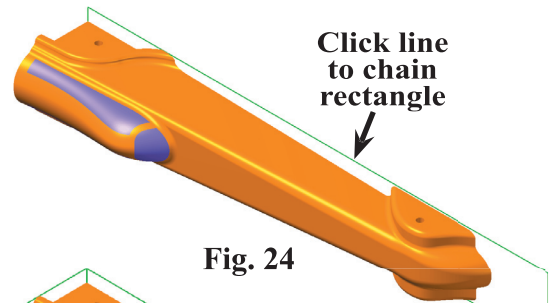

Fig. 24
Step 4. Click a **line** of the rectangle, Fig. 24 and press **ENTER**.